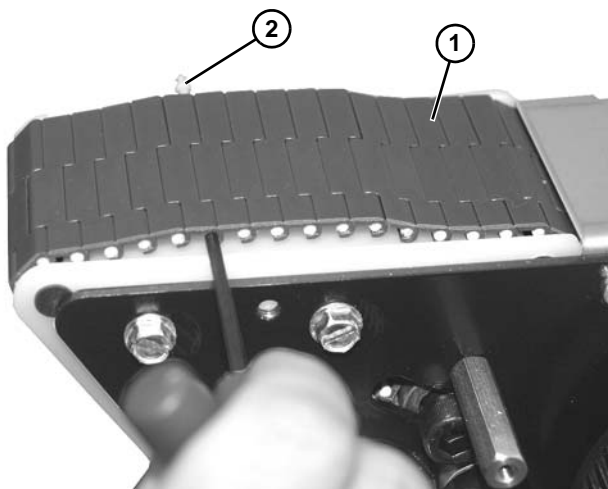

Figure 128
- Lift slightly on belt (Figure 128, item 1) and push pin (Figure 128, item 2) out of belt.